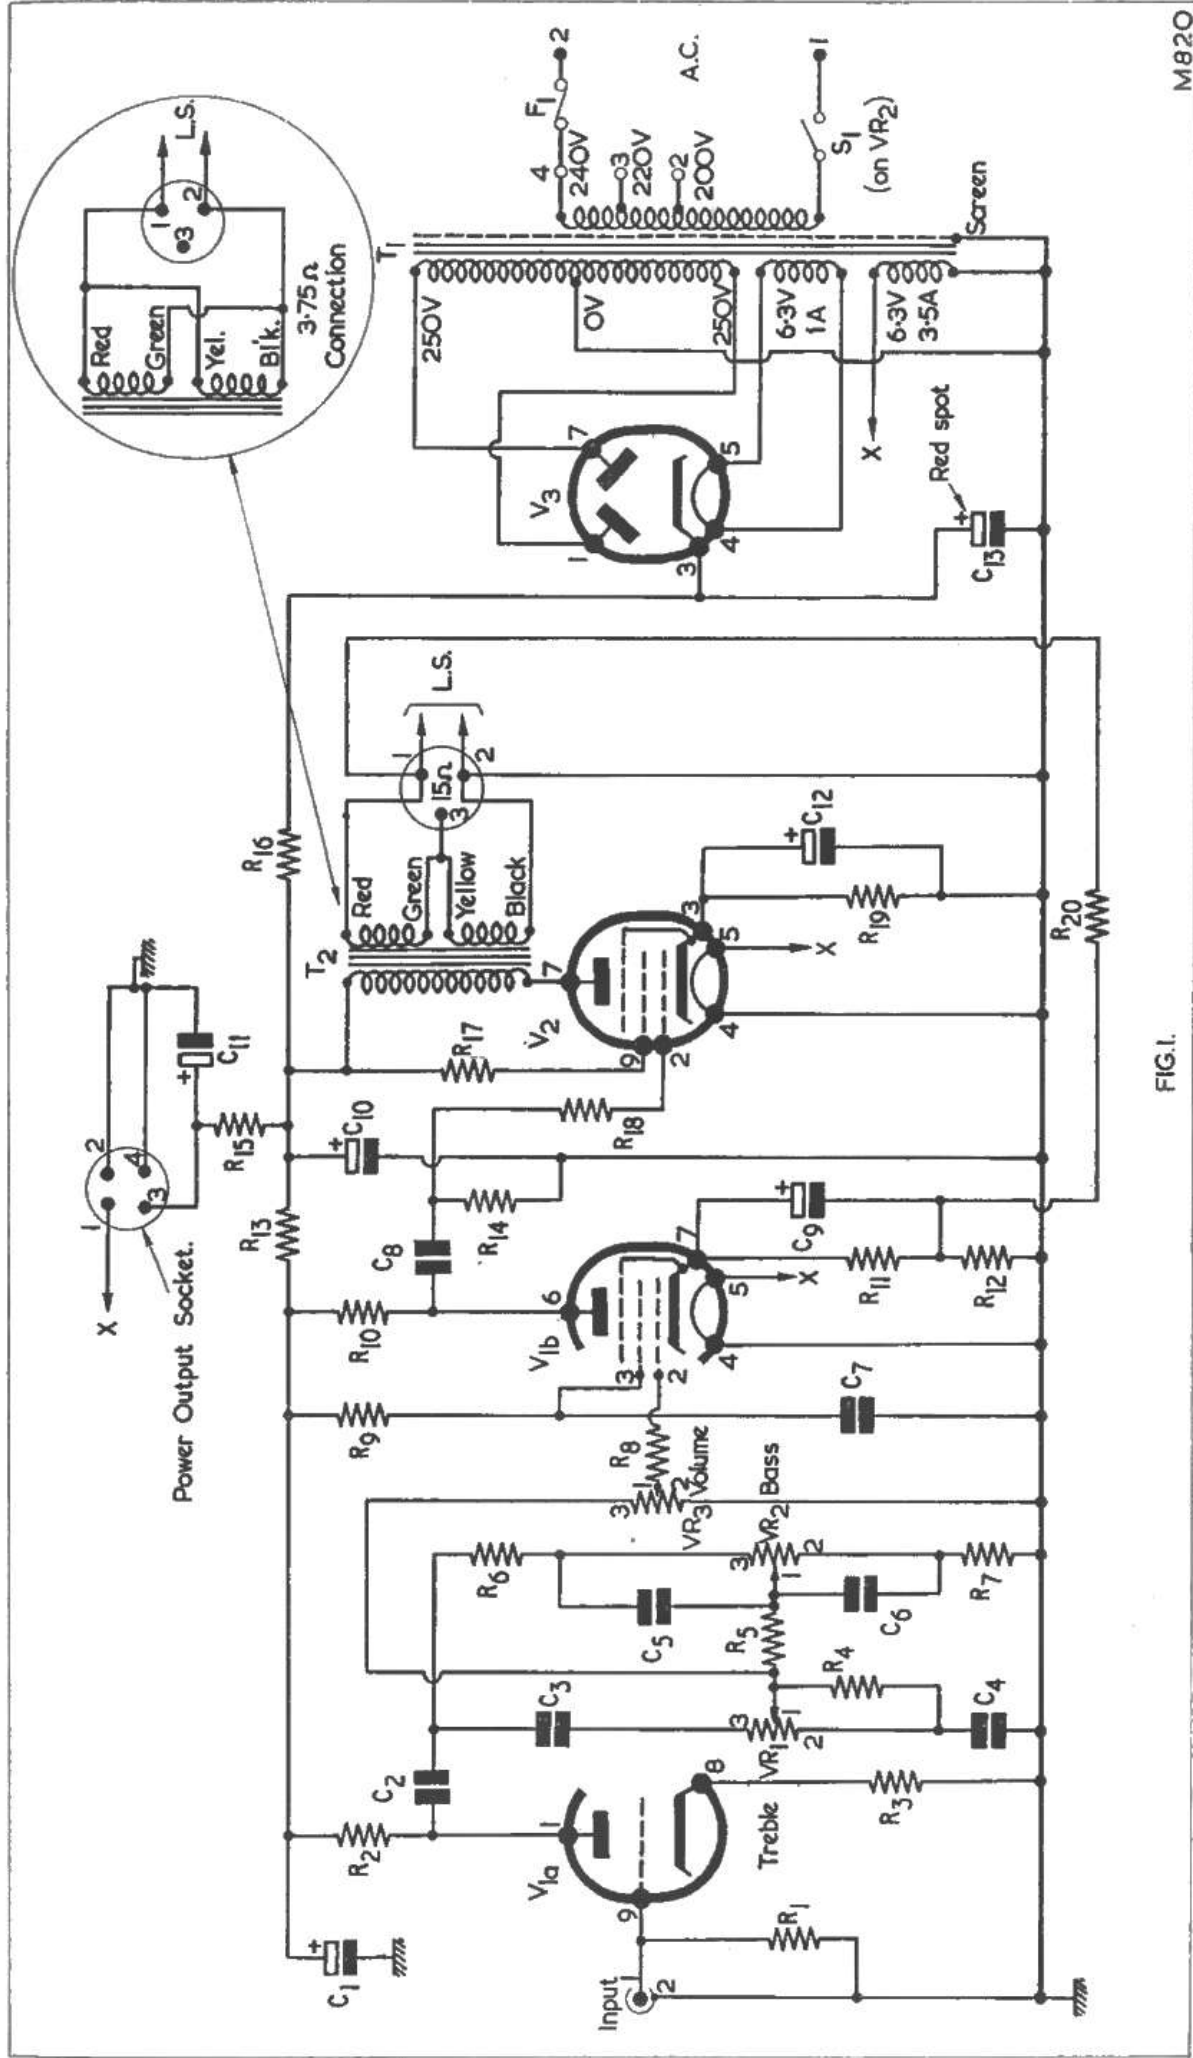
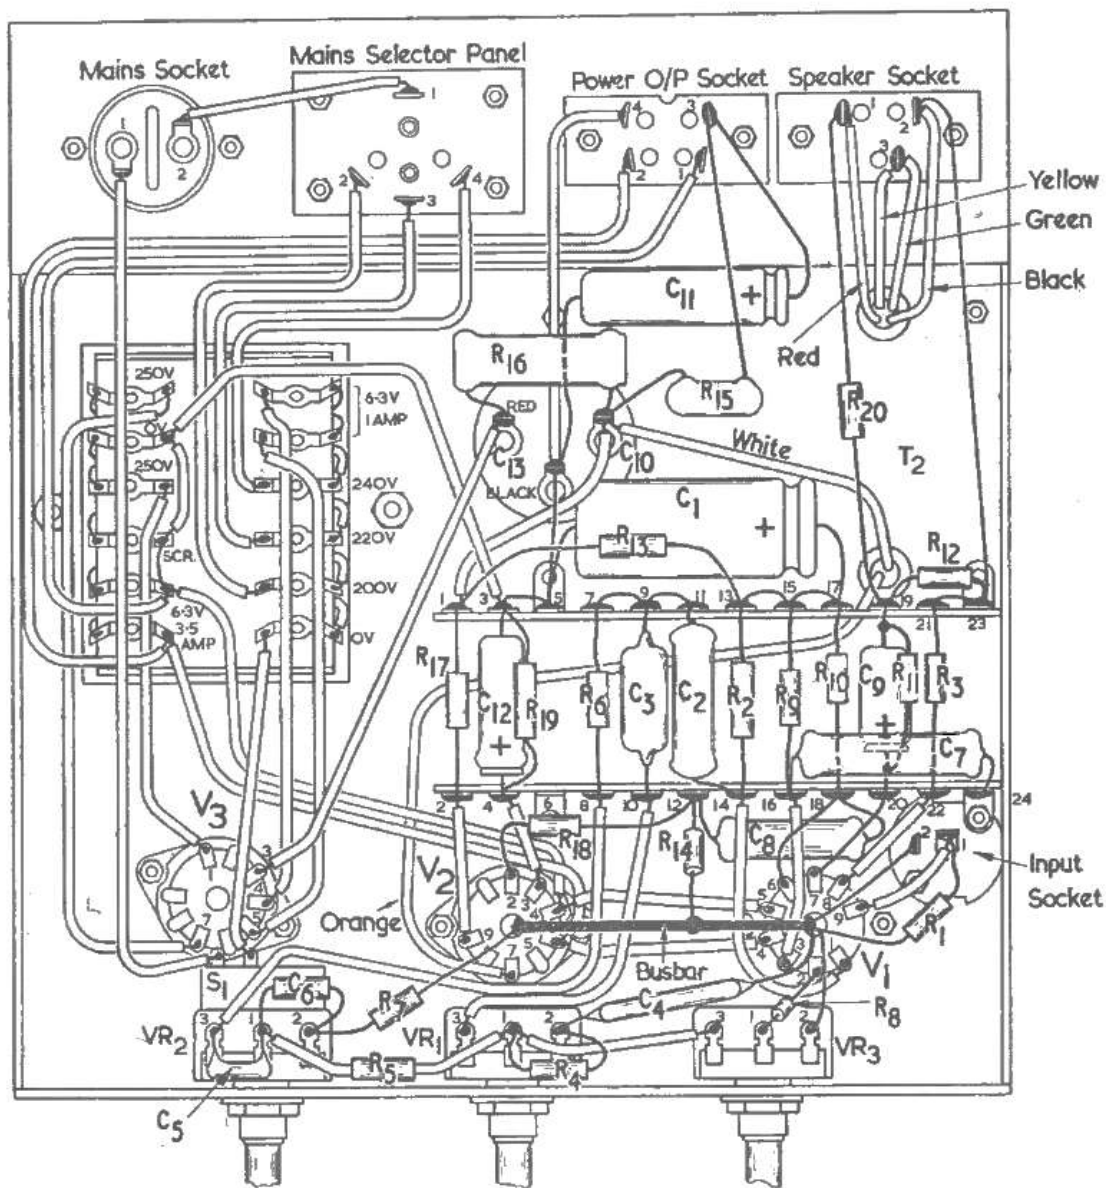

FIG.1.
FIG.2.
Fig. 1. The theoretical circuit of the Cooper-Smith "Bantam". The identification numbers on potentiometers and sockets apply to the similarly numbered tags in Fig. 2
The circuit of the Bantam appears in Fig. 1. The input signal is applied to the grid of $V_{1(a)}$, this being the triode section of an ECF80. $V_{1(a)}$ functions as a triode voltage amplifier and compensates for the loss of signal voltage occurring in the subsequent tone control circuit. A small degree of current negative feedback is applied to the input stage by means of the un-bypassed cathode resistor R_3 .
socket shown in Fig. 1. Since individual requirements may vary, a value for the h.t. series resistor, R_{15} , has not been specified; this being chosen to suit the particular needs of the equipment envisaged. If, to take an example, the ancillary equipment were to require an h.t. supply of 200 volts at 40mA, then R_{15} would be required to drop 50 volts (from the 250 volts available in the amplifier)
Construction of the Cooper-Smith "Bantam" is a relatively simple procedure. The photographs accompanying this article show very clearly the clean and neat layout employed, and they will be of assistance during the process of mounting components and wiring up. A layout and wiring diagram is given in Fig. 2, this showing the position of all components and connections. It will be noted, in Fig. 2, that individual tags on potentiometers, valveholders, sockets and the mains voltage selector panel are numbered. These numbers correspond to those appearing in the circuit diagram of Fig. 1. Also shown numbered are the tags on the two 12-way tagstrips. All these tags are referred to by their numbers in the step-by-step instructions which follow. The rear apron of the chassis in Fig. 2 is shown opened out in order that connections made to the components mounted on it may be illustrated more clearly.
2. Fit the mains transformer T_1 , ensuring that its tags take up the position shown in Fig. 2. Also, fit the speaker transformer T_2 , bringing its leads out as shown in Fig. 2. It is necessary for the lower right-hand nut (adjacent to the tag—fitted later—numbered 23 in Fig. 2) to make good contact to chassis. Ensure good contact by scraping, or cleaning, the underside of the chassis before this nut is fitted.
4. Fit the input socket, ensuring correct orientation (its earthy tag, 2, should take up the position shown in Fig. 2). Again, scrape the chassis to ensure good contact to its mounting nuts.
contact) to the hole near V_2 . (R_{18} —fitted later—is above this hole in Fig. 2.) Mount the two 12-way tagstrips as shown in Fig. 2. The lower tagstrip is mounted over the 6BA bolt just fitted, and over the outside bolt securing the input socket. The upper tagstrip is mounted over the lower right hand
Fig. 2. Layout and wiring diagram. The rear apron of the chassis is laid flat to show the connections to the rear sockets and the mains selector panel more clearly
Under-chassis view of the "Bantam". This view, which demonstrates the clean wiring layout, may be compared with Fig. 2
and 3, to the front panel as shown in Fig. 2 (noting the locating holes in the chassis).
8. Using twisted wiring, connect in parallel pins 4 and 5 of V_1 , pins 4 and 5 of V_2 , the 6.3V 3.5A tags on T_1 , and tags 1 and 2 on the power output socket. Solder all these joints except the 6.3V 3.5A tag on T_1 adjacent to the "SCR" tag. Also using twisted wiring, connect in parallel, and solder, pins 4 and 5 of V_3 and the 6.3V 1A tags on T_1 . (Fig. 2 shows this wiring step with untwisted wire for ease of circuit tracing.)
9. Carefully following Fig. 2, connect the 6.3V 3.5A tag on T_1 adjacent to the "SCR" tag to that tag, carrying on to the 0V tag (h.t. secondary) on T_1 , and to tag 3 of the tagstrips. Solder all joints except tag 3.
10. Carefully following Fig. 2, connect 0V tag (mains primary) on T_1 , to one tag of switch S_1 and solder. Connect 200V tag on T_1 to tag 2 of mains selector panel and solder. Connect 220V tag on T_1 to tag 3 of mains selector panel and solder. Connect 240V tag on T_1 to tag 4 of mains selector panel and solder. Connect the two 250V tags on T_1 to pins 1 and 7 of V_3 and solder.
11. The speaker transformer, T_2 , is next connected into circuit. Connect its orange lead (following route in Fig. 2) to pin 7 of V_2 and solder. Connect its white lead (following route in Fig. 2) to C10.
of T_2 to tag 1 of speaker socket. Connect black lead of T_2 to tag 2 on speaker socket. Connect yellow and green leads to tag 3 on speaker socket, soldering at tag 3. These connections are shown in Fig. 2.
13. *For 3.75 Ω output only.* Connect red and yellow leads of T_2 to tag 1 on speaker socket. Connect green and black leads of T_2 to tag 2 on speaker socket. These connections are not shown in Fig. 2.
29. The rest of the wiring is now continued. Following the route shown in Fig. 2, connect pin 3 of V_3 to C_{13} , soldering at pin 3.
30. Following Fig. 2, connect and solder the remaining tag of switch S_1 to tag 1 of the mains socket.
32. Following Fig. 2, identify the negative (black) tag of C_{10} , C_{13} . All the following connections involve this tag. Connect the negative tag of C_{10} , C_{13} to tag 5 on the tagstrips, soldering at tag 5. Connect the negative tag of C_{10} , C_{13} to tag 4 on the power output socket, soldering at tag 4. Connect C_{11} ($8\mu\text{F}$, 350 W.V.) between the negative tag of C_{10} , C_{13} and tag 3 on the power output socket, observing correct polarity. Solder at negative tag of C_{10} , C_{13} .
33. Following Fig. 2, connect C_{10} to tag 1 on the tagstrips, soldering at tag 1.
34. Following Fig. 2, connect R_{16} (470Ω) between C_{10} and C_{13} , soldering at C_{13} .
35. Following Fig. 2, connect and solder R_{15} (value according to requirements—see above) between C_{10} and tag 3 on the power output socket.
39. Bend the supplied thick piece of wire at right angles, $\frac{3}{4}$ in in from each end, and solder to centre spigots of V_1 and V_2 to form a busbar between them. (The bent ends enter the spigots, and the busbar is shown in heavy line in Fig. 2.) All connections made to the busbar which follow are soldered at the busbar.
43. Join and solder pin 7 of V_1 and tag 20 of the tagstrips. Use sleeving (omitted from Fig. 2 for clarity).
44. Join and solder pin 6 of V_1 and tag 18 of the tagstrips. Use sleeving (omitted from Fig. 2 for clarity).
51. Join tag 3 of VR_2 to tag 8 of the tagstrips, and solder at tag 8. Follow route shown in Fig. 2.
52. Join and solder tag 3 of VR_1 to tag 10 of the tagstrips. Follow route shown in Fig. 2.